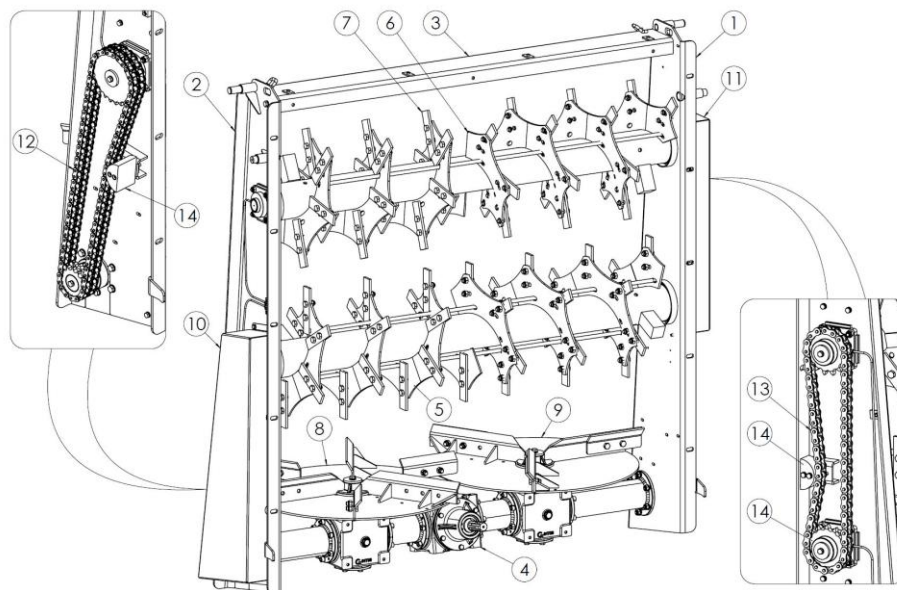

Figure 11. 2-rotor horizontal disc adapter
The 2-rotor horizontal disc adapter (fig. 11) consists of a left beam (1), a right beam (2) and an upper beam (3) to form the adapter frame. In its lower part there is a gearbox (4), on which the spreading discs (5) and (6) are mounted. The main working tools consist of the replaceable blades (7) screwed on to the horizontal rotors (8) and (9). By rotating, the rotors grind the fed material, which is supplied by the adapter guard to the spreading discs. The rotating discs eject the shredded material backwards and sideways. Power is transmitted from the gear (4) to the horizontal rotors (5) and (6), via the chain transmissions installed under the guards (10) and (11). From the gear, power is transmitted to the rotor of the lower 16B2 chain
(12). Power is transmitted from the bottom rotor to the upper rotor by means of the 20B1 chain (13). The chain tension is controlled by tensioners (14).